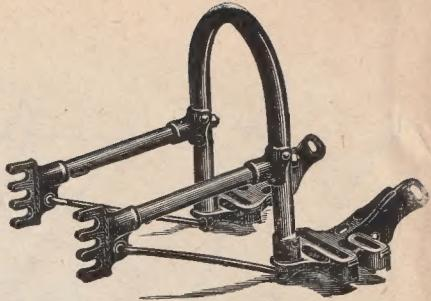

Fig. 182
**The Frame** as shown more clearly in Fig. 182 is made of pipe, coupled to malleable castings; of pipe to again secure lightness and a frame of such shape and strength to make it practically unbreakable. The arch is high enough to work astride 20 inch plants. We call especially attention to our new handle adjustment whereby the handles may be adjusted when they are attached to the frame as well by change of height of wheels on the arms of the frame. The new adjustment gives facility to change the position of the handles to suit the height of a small boy or a tall man.